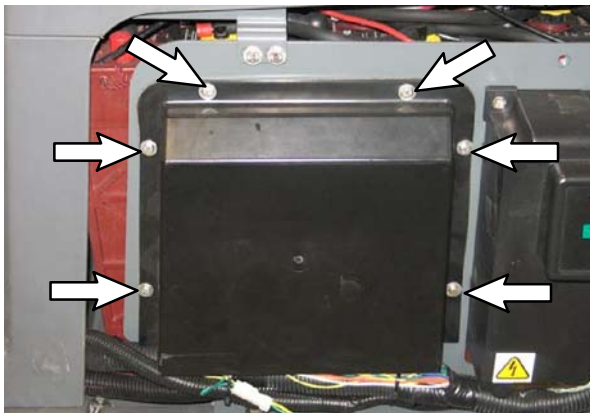

FIG. 2
2. Remove the circuit board cover from the electronic component mounting plate. Set the circuit board cover and all hardware aside. (Fig. 2)
8. Reinstall the circuit board cover onto the electronic component mounting plate. (Fig. 2)